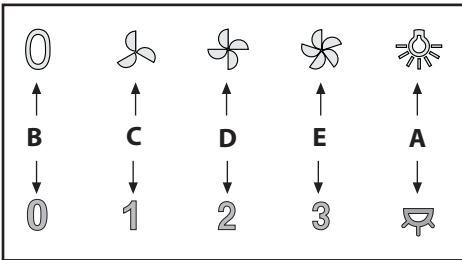

Fig.10
• **Commands (Fig.10) mechanical** the key symbols are explained below: